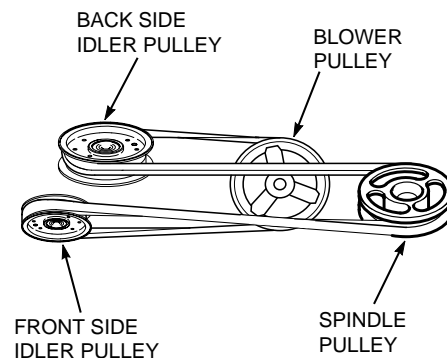

FIGURE 3-1
2. Remove the discharge chute from the cutter deck. See Figure 3-1.
3. Remove the right side belt cover to gain access to the spindle assembly. Remove the front u-nut from the cutter deck bracket. See Figure 3-1.
4. Install the grass catcher pulley onto the spindle assembly. Apply loctite to both pulley setscrews and tighten. See Figure 3-1.